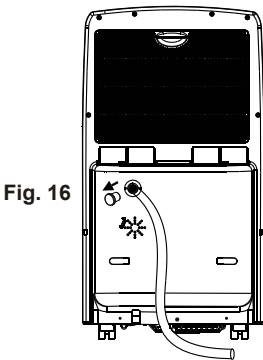

Fig. 16
1. Remove drain plug from the back of the unit (Fig. 16).